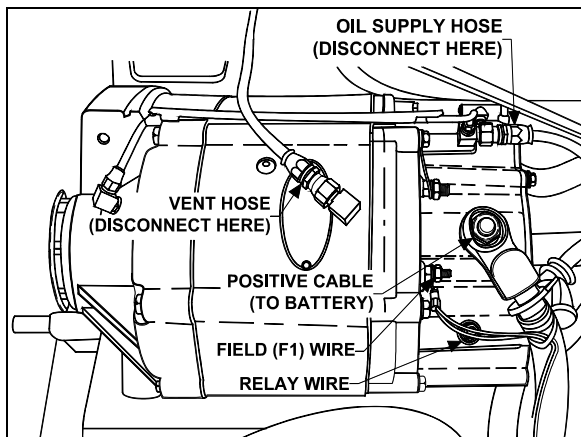

FIGURE 26: ALTERNATOR (HOSES AND WIRES) 06073
4. Scratch off protective sealer from electrical connections (relay, field and positive terminals). Refer to Figure 26.
5. Disconnect wire #25 from the relay terminal, wire #107 from the field "F1" terminal and disconnect battery cable from the positive "+" terminal on the diode end cover. Tag wires removed to ease identification at time of installation. Refer to Figure 26.
6. Disconnect oil supply line and vent hose from top of alternator (Figure 26) and tape lines to prevent entry of foreign matter. Disconnect oil drain hose from bottom of